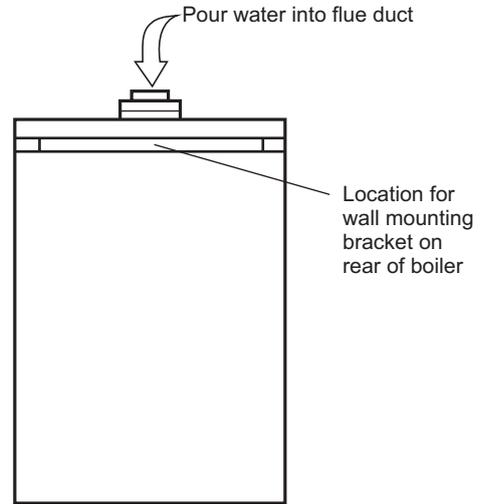

Fig. 12 - rear of boiler
4. Connect the 22 mm condensate trap drain pipe to the condensate discharge pipe using the clip supplied. Ensure that the condensate discharge pipe is as required in Section 3.10. Pour at least 0.5 litre of water into the flue duct, as shown in Fig. 12, and check the condensate discharge pipe for soundness.